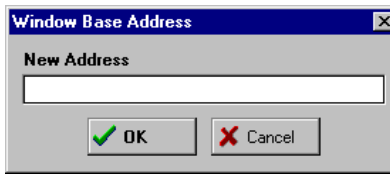

Figure 6-5. Window Base Address Dialog
- **Set PC at Cursor:** Choose this option to set the Program Counter (PC) to the current cursor location.
- **Goto Address at Cursor:** Choose this option to execute the source code until the Program Counter (PC) gets to the line at the current cursor location. When PC gets to that point, execution stops.
- **Set Base Address:** Choose this option to open the *Window Base Address* dialog (Figure 6-5) and set the new address for the first code line in the Code Window.